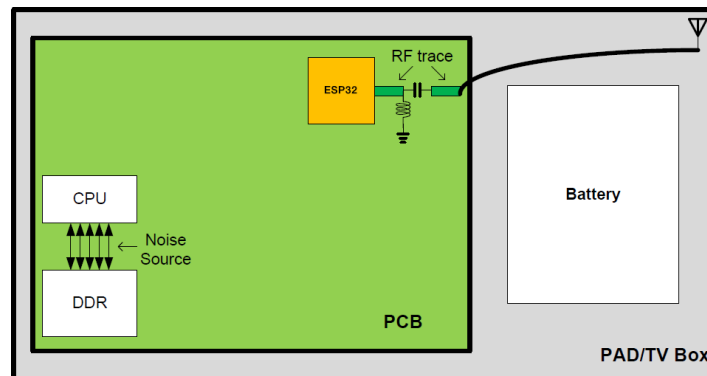

Figure 19: PAD/TV Box Layout
- As can be seen in Figure 19, ESP32 should be placed near the edge of the PCB and away from the CPU and DDR, the main high-frequency noise sources. The distance between the chip and the noise sources decreases the interference and reduces the coupled noise.